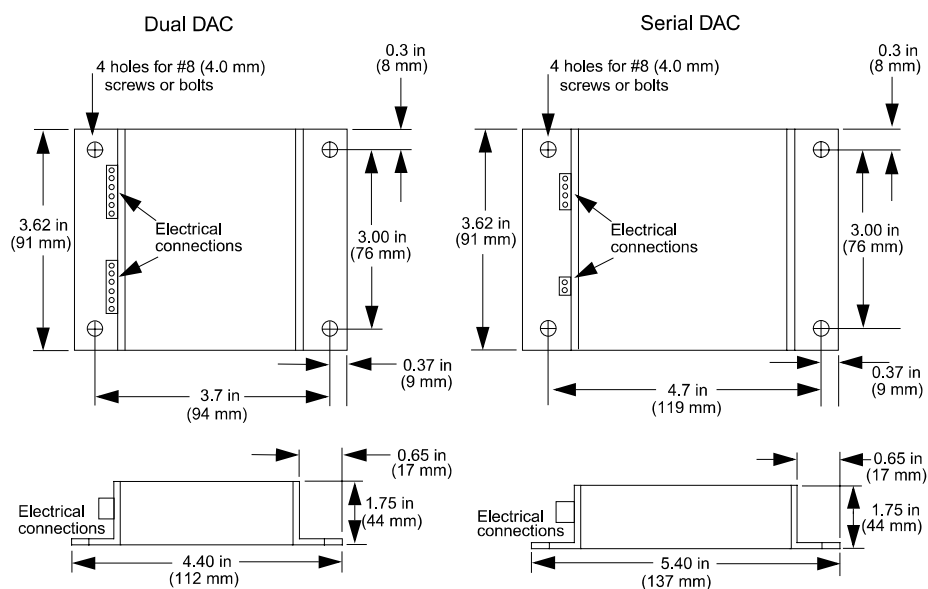

Figure 2.11 Dual DAC and Serial DAC Dimensions
2. Mark and drill four holes for screw mounting. Holes accommodate #8 (4.0 mm) size screws. See Figure 2.11 for screw locations. Install the unit with the four screws.